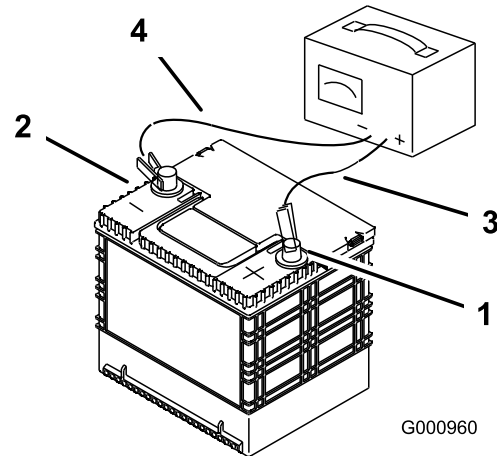

Figure 56
2. When the battery is fully charged, unplug the charger from the electrical outlet; then disconnect the charger leads from the battery posts (Figure 56).